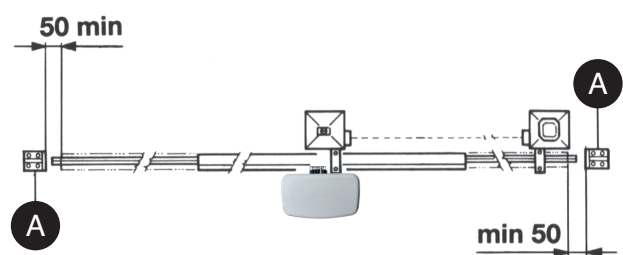

FIG. 2
- Besides the electrical or mechanical limit switches available on the operators, there must be, on both ends of the installation, a fixed mechanical stopper which stops the gate in the unlikely event of bad functioning of the limit switches on the operators. For this reason the fixed mechanical stopper must be of an adequate size to withstand the static and kinetic forces generated by the gate (A) (Fig.2).
The guide must be provided with two mechanical stops at its ends (A) (Fig. 2).